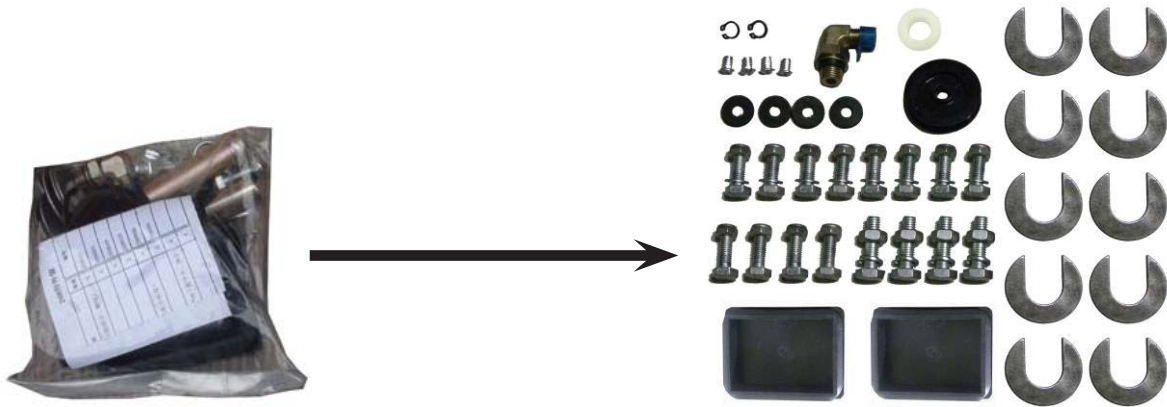

Fig. 10
6. Check the parts in the parts bag according to parts bag list (See Fig. 10).